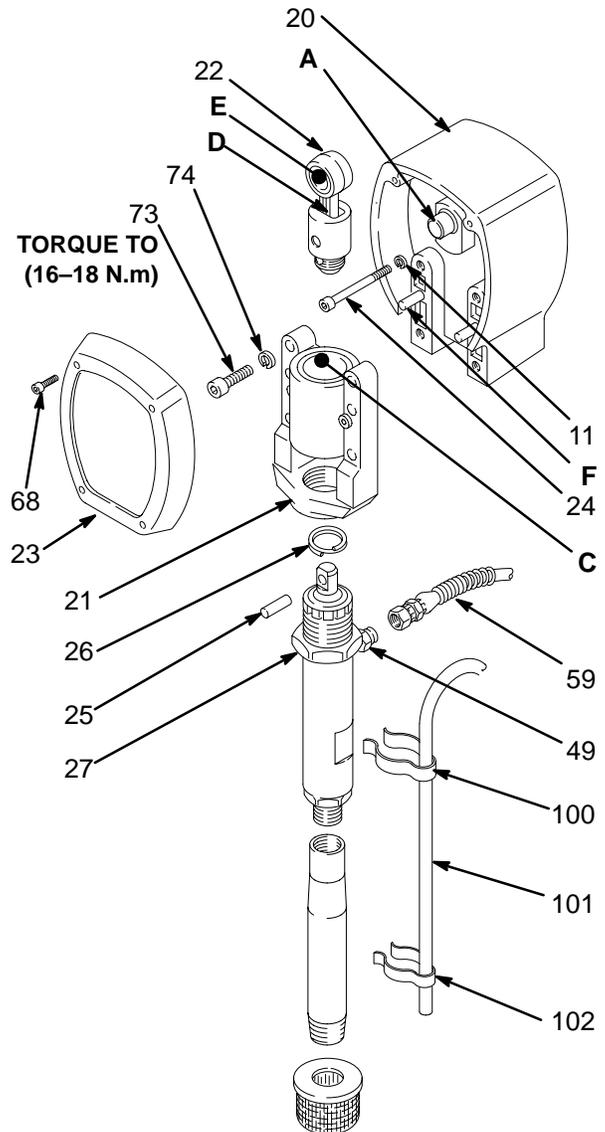

Fig. 19
**NOTE:** Refer to Fig 19 for this procedure.
7. Install the front cover and screws (23, 68). Connect the suction tube (30) and pump outlet hose (59). See Fig 19.